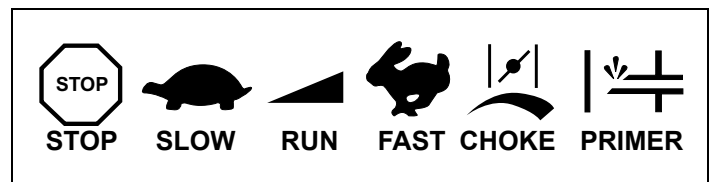

Figure 25. Typical Engine Symbols
4. Move Engine Speed Control to "FAST" position and set Choke Control to "FULL" position (see equipment manufacturer's instructions). See Figures 25 thru 28.